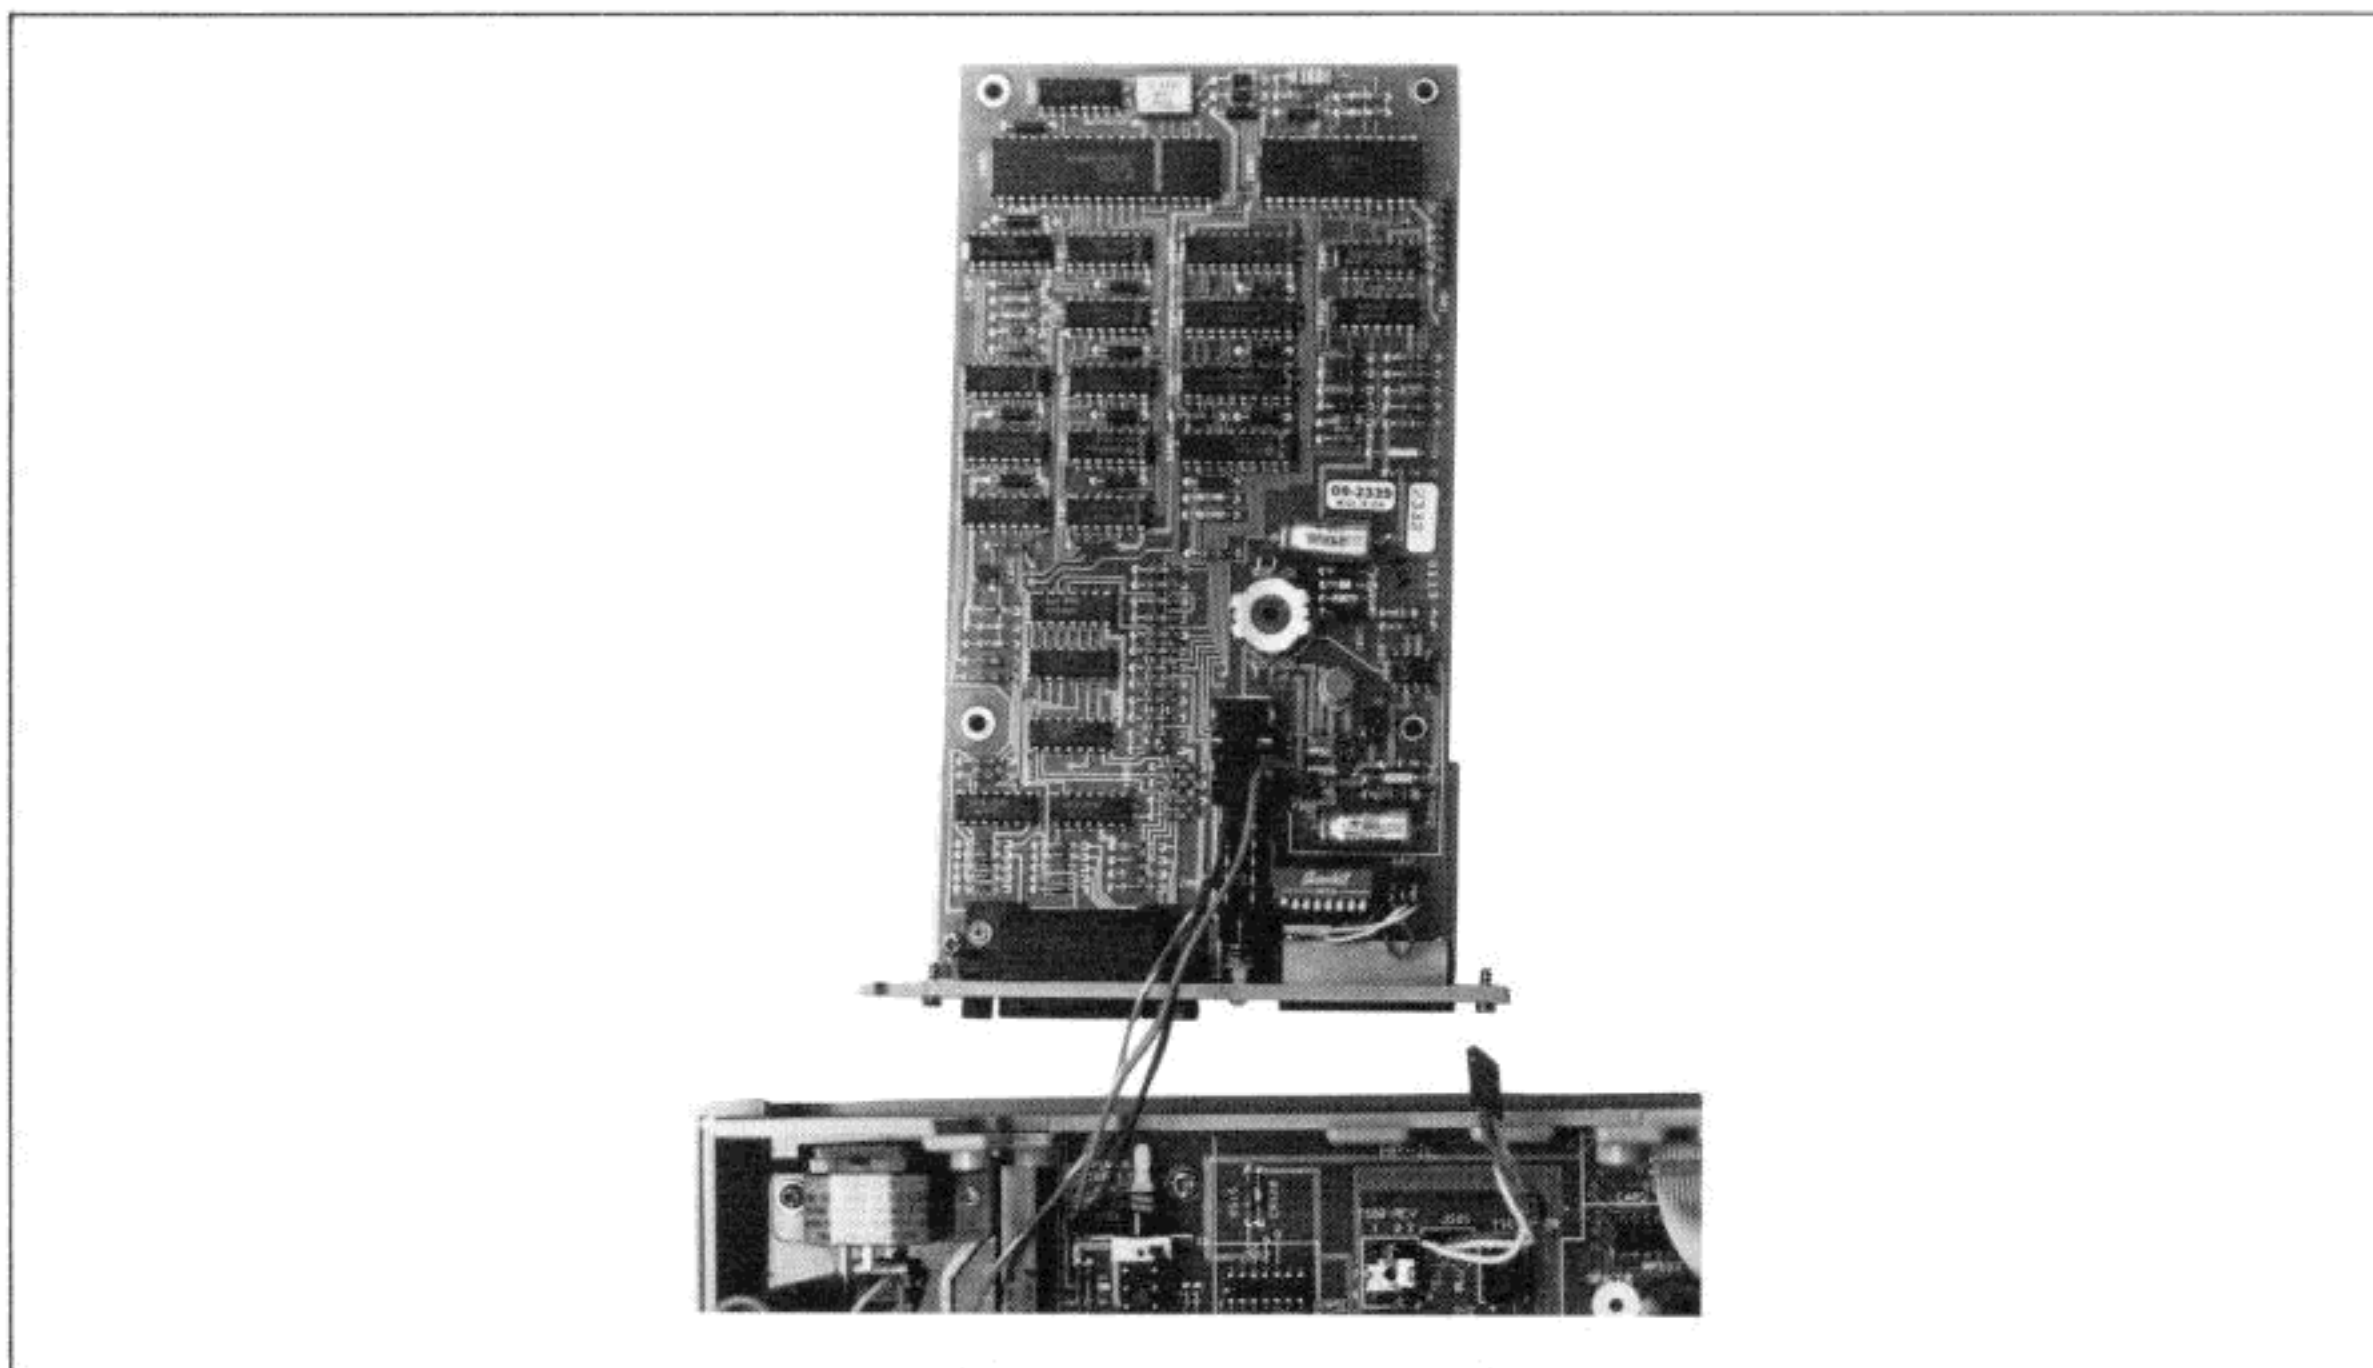

Figure 4-8-3. Set HP-IB Option on Work Surface
- i. Set the HP-IB option on a flat surface as shown in Figure 4-8-3. To prevent any shorting on the board, set it on a non-conductive surface.